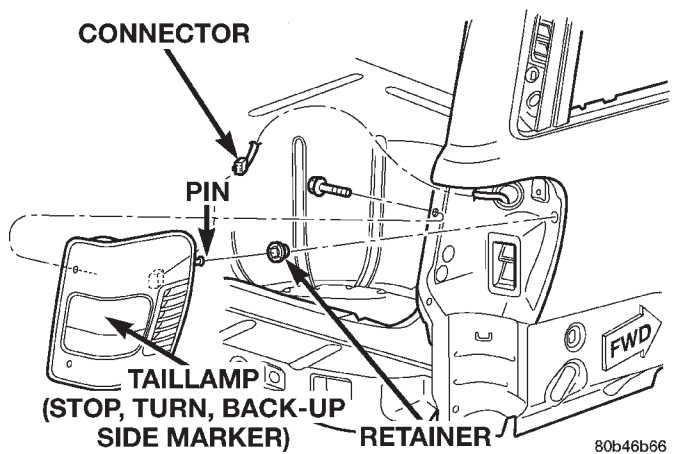

Fig. 4 Tail Lamp
- (1) Remove screws attaching lamp to body (Fig. 4).
- (2) Grasp lamp and pull from body to disengage alignment pin.
- (3) Disconnect lamp wire harness connector.
- (4) Separate lamp from vehicle.